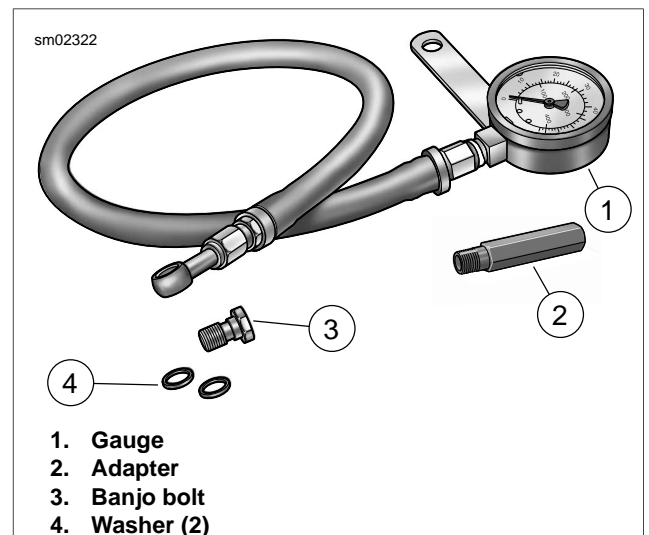

Figure 3-15. Oil Pressure Gauge Set
- See Figure 3-15. Install OIL PRESSURE GAUGE SET (Part No. HD-96921-52C).
- Install adapter (2) in oil pressure switch mounting hole. Tighten adapter until snug.
- Assemble banjo bolt (3), washer (4), oil pressure gauge (1) banjo fitting and second washer onto adapter and tighten until snug.